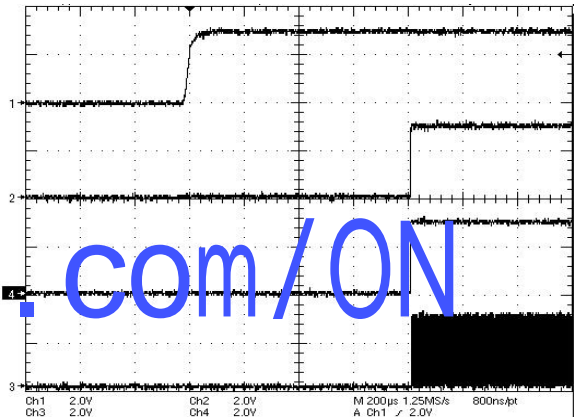

Figure 7. Activation Sequence, Ch1 : CRD\_VCC,
3.0 V). Figure 7 shows the typical NCN4557 activation sequence.